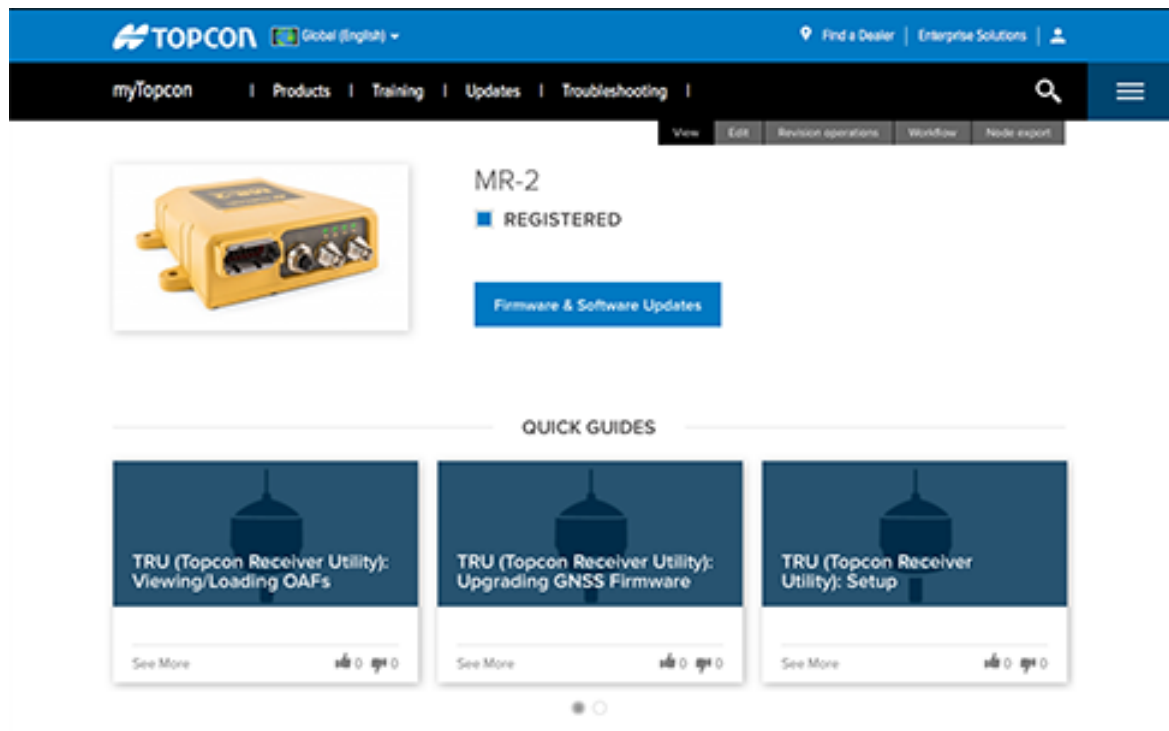

Figure 48: MR-2 Product Page
1. Go to <https://www.topconpositioning.com/support/products/mr-2>, and click **Firmware & Software Updates** (Figure 48).